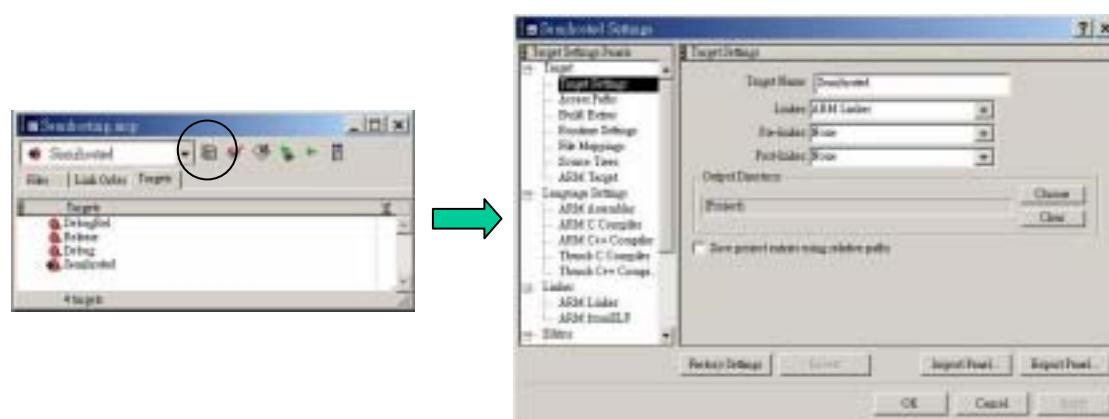

Figure 6 DebugRel Settings
- (2) Hit the Build Target Setting button.
- (3) A **Semihosted Settings** windows appears (Figure 6). Click **Target Settings** in the **Target**. Make sure Linker is **ARM Linker**.